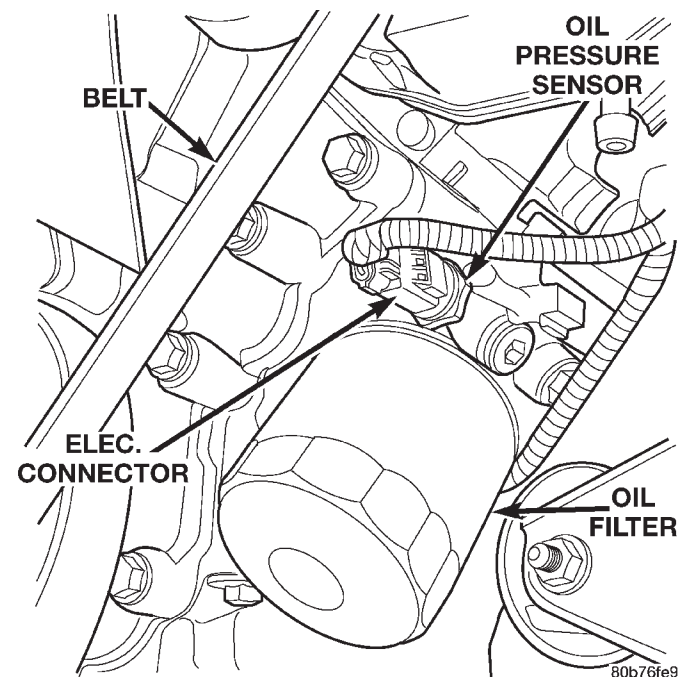

Fig. 3 Oil Pressure Sending Unit
(1) Remove oil pressure sending unit (Fig. 3) and install gauge assembly C-3292.